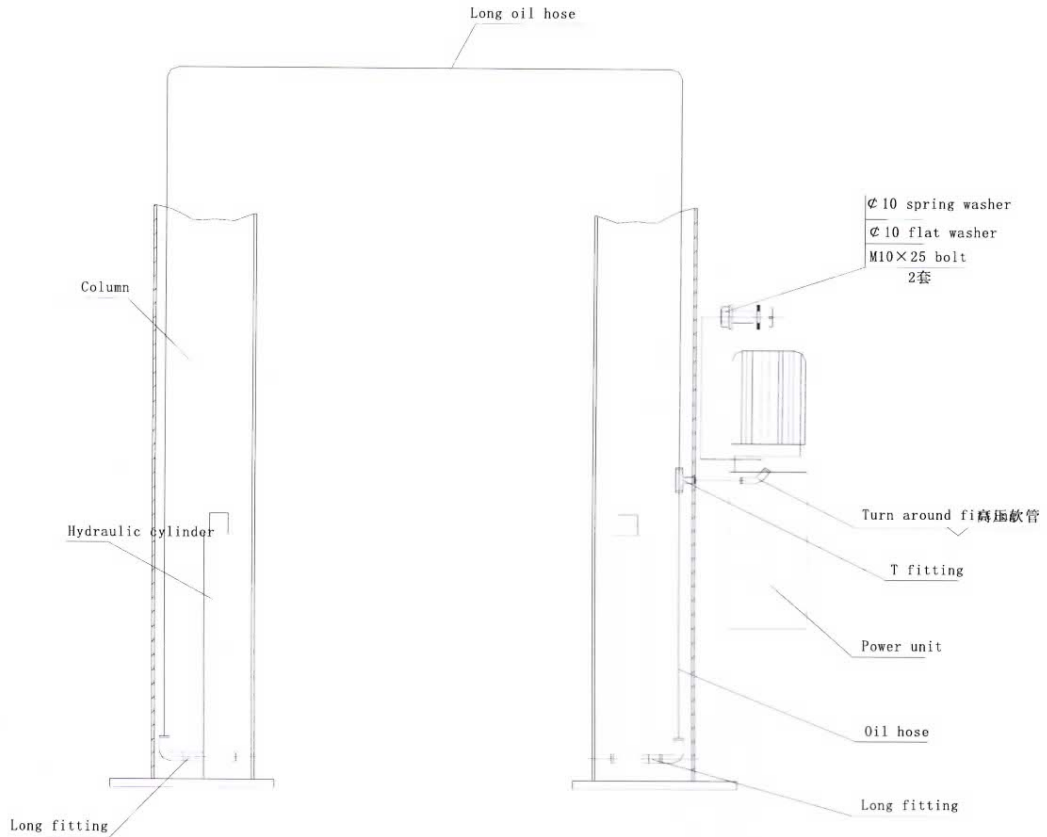

Fig. 10
- Use two M10 bolts and gaskets to fix the power unit as shown in Fig. 10; install the hydraulic line, and tighten all the fittings to prevent oil leakage.